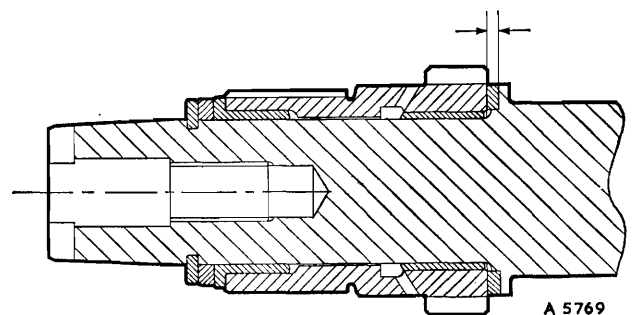

Fig. A.17
(10) Remove the primary gear as described in Section A.18.
(11) When refitting, check the running clearance (Fig. A.17).
(12) Adjust by fitting the appropriate thrust washer.